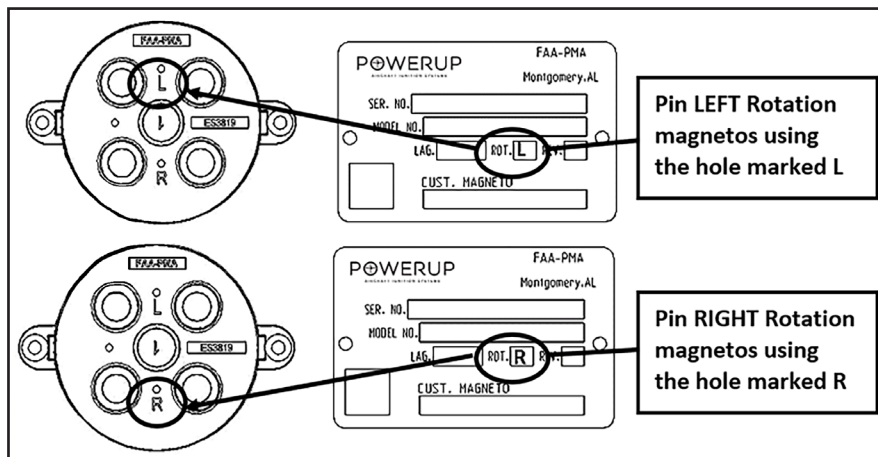

Figure 6.22 – Correct Timing Pin Hole
- D. Locate the holes in the distributor block marked “L” and “R”. Refer to Figure 6.22.